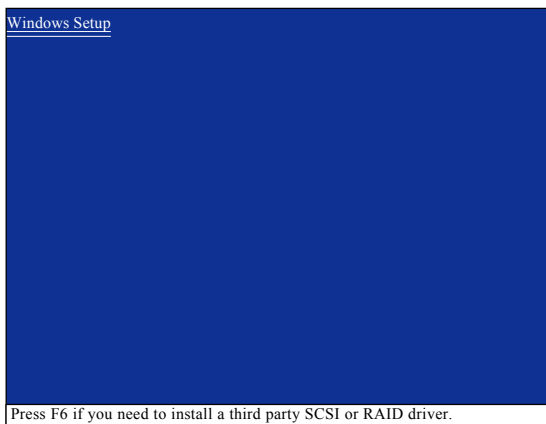

Figure 1
Step 1: Restart your system to boot from the Windows Vista/XP/2000 setup disk and press <F6> as soon as you see the message "Press F6 if you need to install a 3rd party SCSI or RAID driver" (Figure 1). After pressing <F6>, there will be a few moments of some files being loaded before you see the next screen.